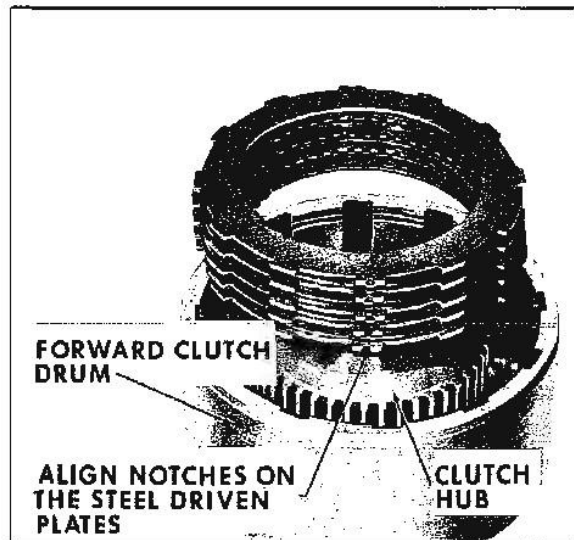

Fig. 7B-82 Installing Clutch Pack
9. Install clutch hub rear thrust washer with flange in bore of low sun gear (Fig. 7B-83).